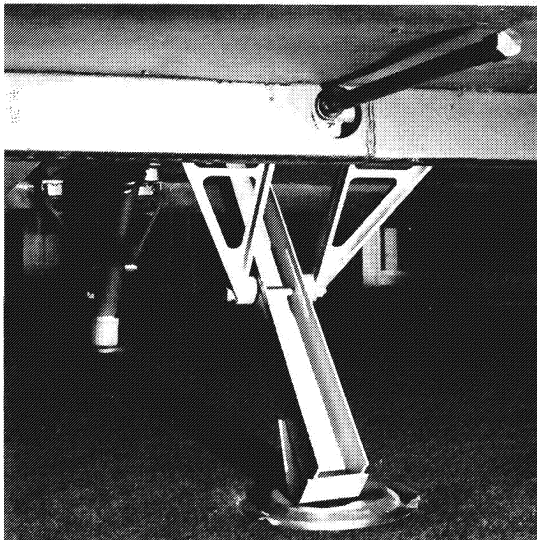

Fig. 3—B.A.L. Stabilizing Jack
**Level from front to rear** by disconnecting the hitch from the car, putting the jack pad under the hitch jack and adjusting the jack up or down until you are level. Block or chock the wheels to keep the trailer from rolling. Use **stabilizing jacks** at all four corners as shown in the diagram to the right, to eliminate the natural spring action of the axles. If you have optional **B.A.L. stabilizing jacks** (Fig. 3) use the wrench, located in the hose carrier, to lower the two units on the low side. Bring trailer to a level position side to side. Lower opposite stabilizing units to a firm position.